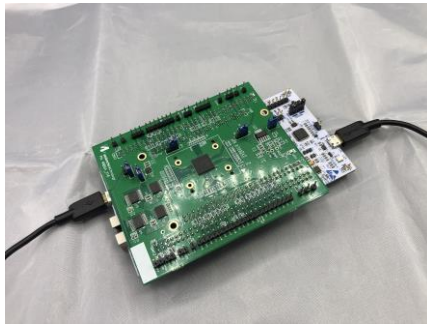

Figure 5: Nucleo Board with 2 USB Connections
1. Connect the eval kit to your computer's USB ports using two universal USB 2.0 cable (see *Figure 5: Nucleo Board with 2 USB Connections*). The RED power LEDs on both the STMicro